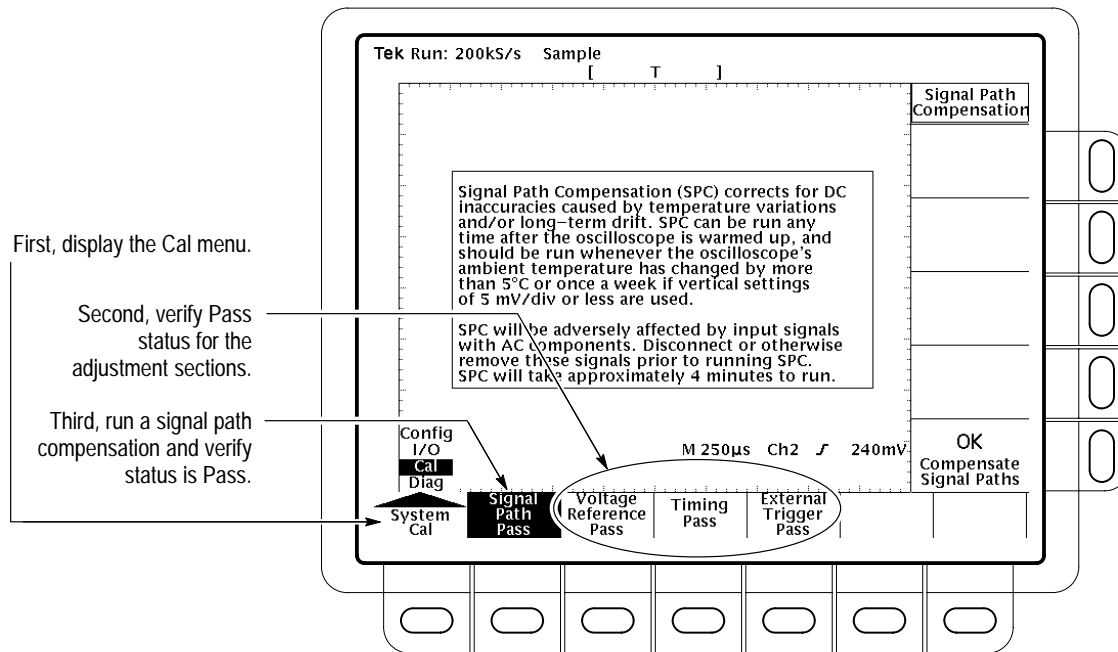

Figure 4-2: Verifying adjustments and signal path compensation
9. Check that the word **Pass** appears under **Signal Path** in the main menu. (See Figure 4-2.) If Pass does not appear, the oscilloscope has failed the performance verification; return it to Tektronix for servicing.